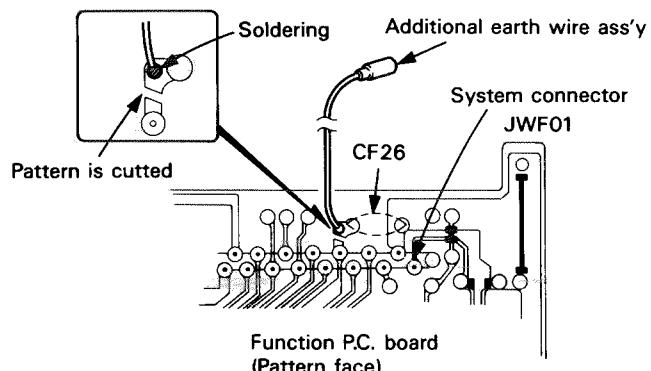

Fig. 3 Pattern face of function P.C. board
- (2) Addition of earth wire ass'y connected to CD tuner section
- ① The pattern on the system connector side of ceramic condenser CF26 is cut as indicated in Fig. 3 below.
- ② Change of CF26 ceramic condenser (Parts No. QCBB1HK-151Y) to QCF11HP-473.
- ③ Addition of ceramic condenser (Parts No. QCVB1CN-103Y) on the opening around C25 on the function P.C. board.
- ④ Addition of bus wire (Parts No. QWY123-17.5Y) on the opening around BD603 on the Function P.C. board.